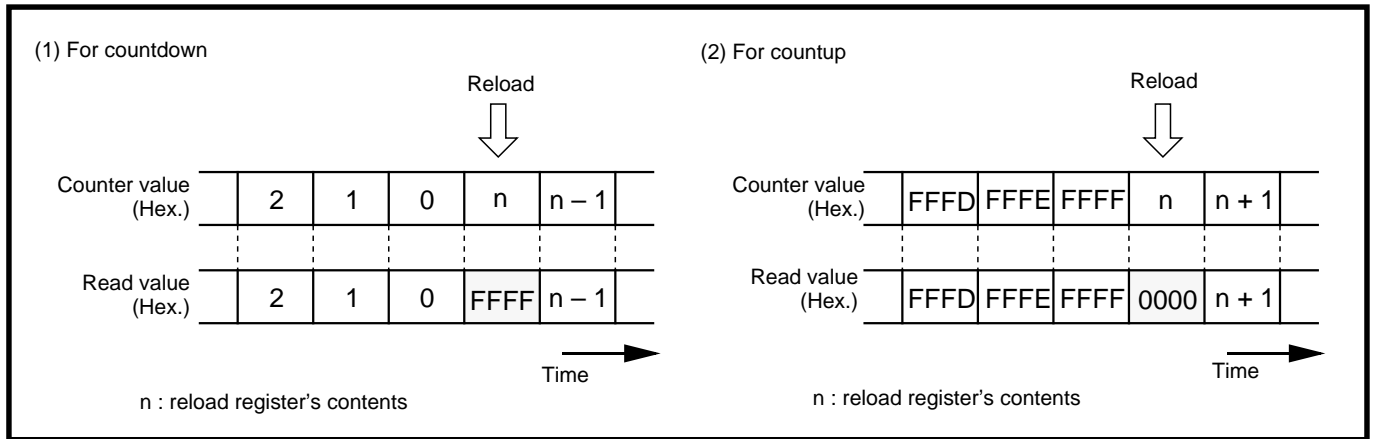

Fig. 7.4.9 Reading timer A_j register
2. While counting is in progress, by reading the timer A_j ($j = 0$ to $2, 4, 9$) register, the counter value can be read out at any timing. However, if the timer A_j register is read at the reload timing shown in Figure 7.4.9, the value “FFFF₁₆” (at an underflow) or “0000₁₆” (at the overflow) is read out. If reading is performed in the period from when a value is set into the timer A_j register with the counter stopped until the counter starts counting, the set value is correctly read out.